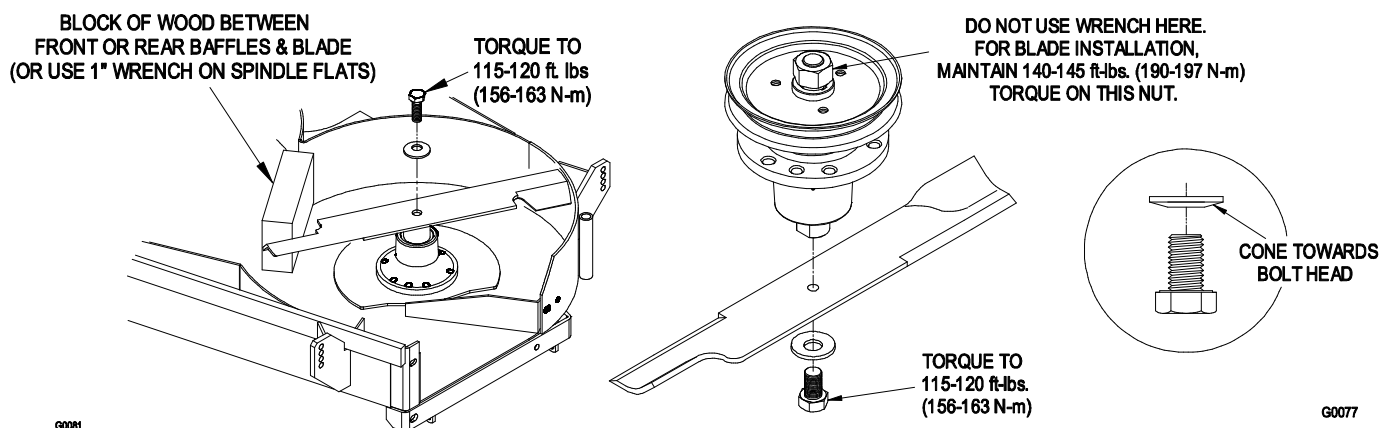

FIGURE 7
d) Re-install the blades (if they were removed) by placing a block of wood between the front or rear baffles and the blade then torque the blade bolts to 115-120 ft. lbs (156-165 N-M). Be sure the spring disk washer cone is installed toward the bolt head. (See Figure 7).